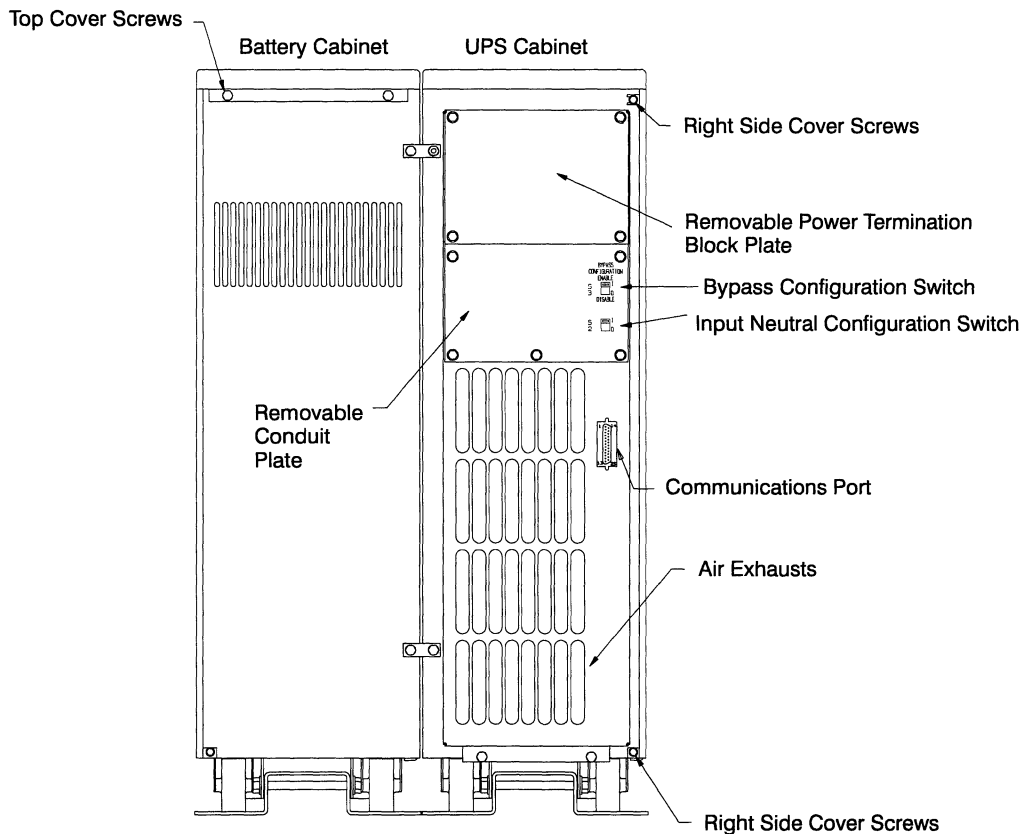
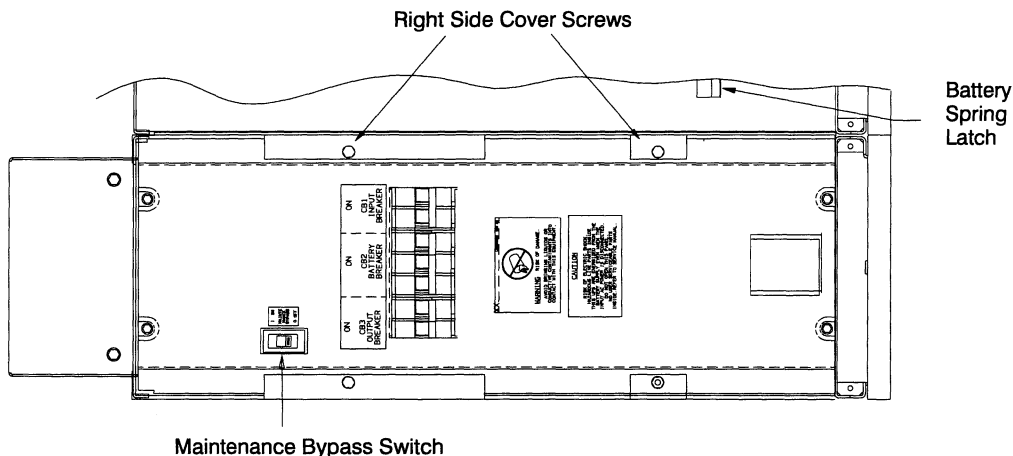

Figure 9. Rear View of the Plus 12 UPS
Figure 10. Top View with UPS Cover Removed
7. Remove the two screws located at the top rear of the battery cabinet (see Figure 9). Retain the screws.
10. Remove the right side cover of the UPS cabinet by removing the mounting screws (four each) as shown in Figures 9 and 10.
1. Locate the Bypass Configuration switch on the rear panel of the UPS (see Figure 9 on page 37) and Maintenance Bypass switch on the top panel of the UPS (see Figure 10 on page 37).
1. Locate the Input Neutral Configuration switch on the rear panel of the UPS (see Figure 9 on page 37).